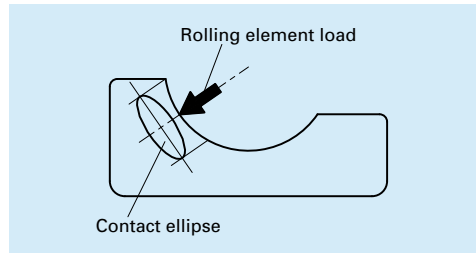

Fig. 4 Ride-over limit axial load
1. Ride-over limit axial load (Fig. 4)